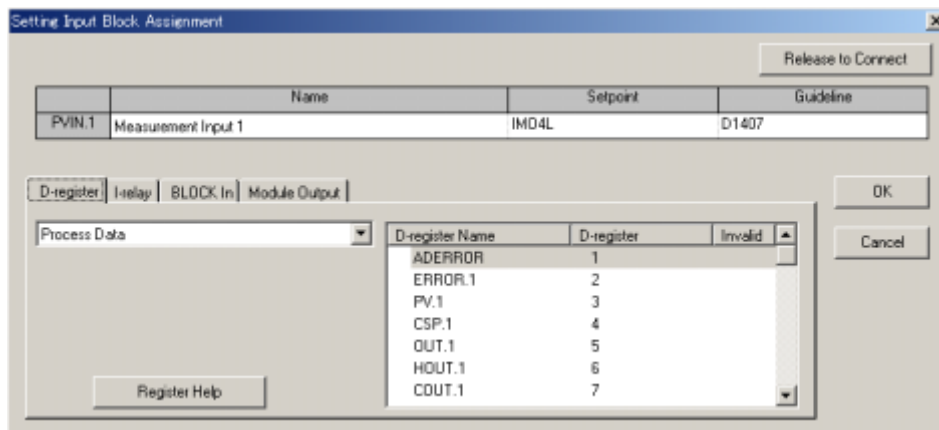

Figure 12.3.9 [Setting Input Block Assignment] Dialog Box
- (2) From the tool menus, choose <Edit [E]>, then <Connection>. The [Setting of Input Block Connection Assignment] dialog box (Figure 12.3.9) appears.